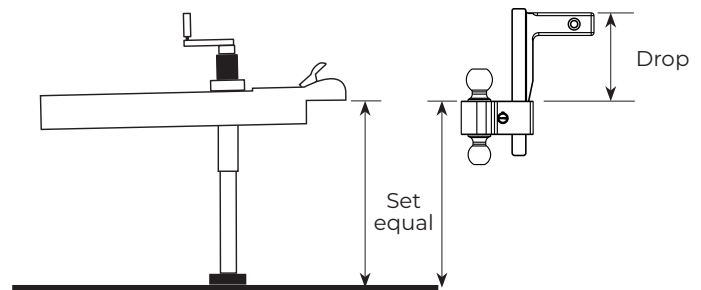

Figure 1
6. Measure from the ground to the bottom of the coupler on the trailer. Rotate the ball holder to use the correct hitch ball for your trailer. Pin the ball holder into place on the drop bar at the same height as the trailer coupler by sliding the pins through the ball holder and drop bar. (Figure 1)